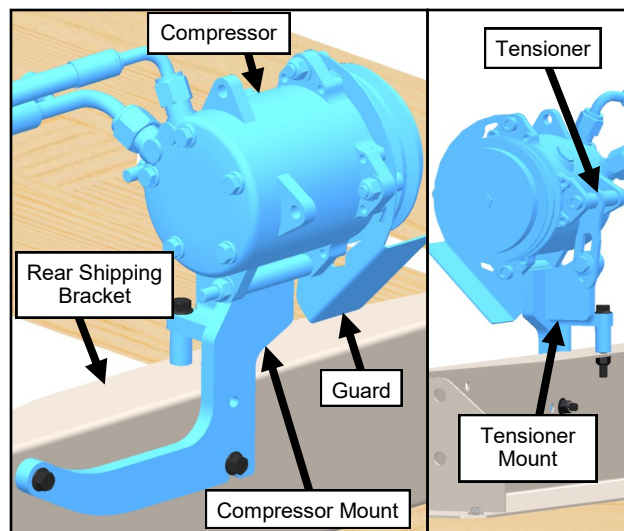

Fig. 1.31 (Remove Compressor Mount)
1.31 Remove compressor (with guard and tensioner) from the compressor and tensioner mounts and keep the three 3/8" screws and three 3/8" nuts with compressor. Support the compressor using a bungee cord or rope. Do not ever use the hoses to support the compressor or damage may occur. Next, remove compressor and tensioner mounts from rear shipping bracket and discard the three 5/16" screws and three 5/16" nuts. See Figure 1.31.